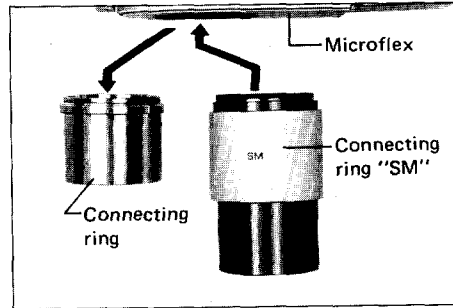

Fig. 15
- ② Remove the connecting ring from the Microflex, and in its place attach the connecting ring "SM" removed from the photo tube. Attach the connecting ring "SM" screwed into the Microflex to the photo tube and lock it firmly in position. (Figs. 15 & 16)